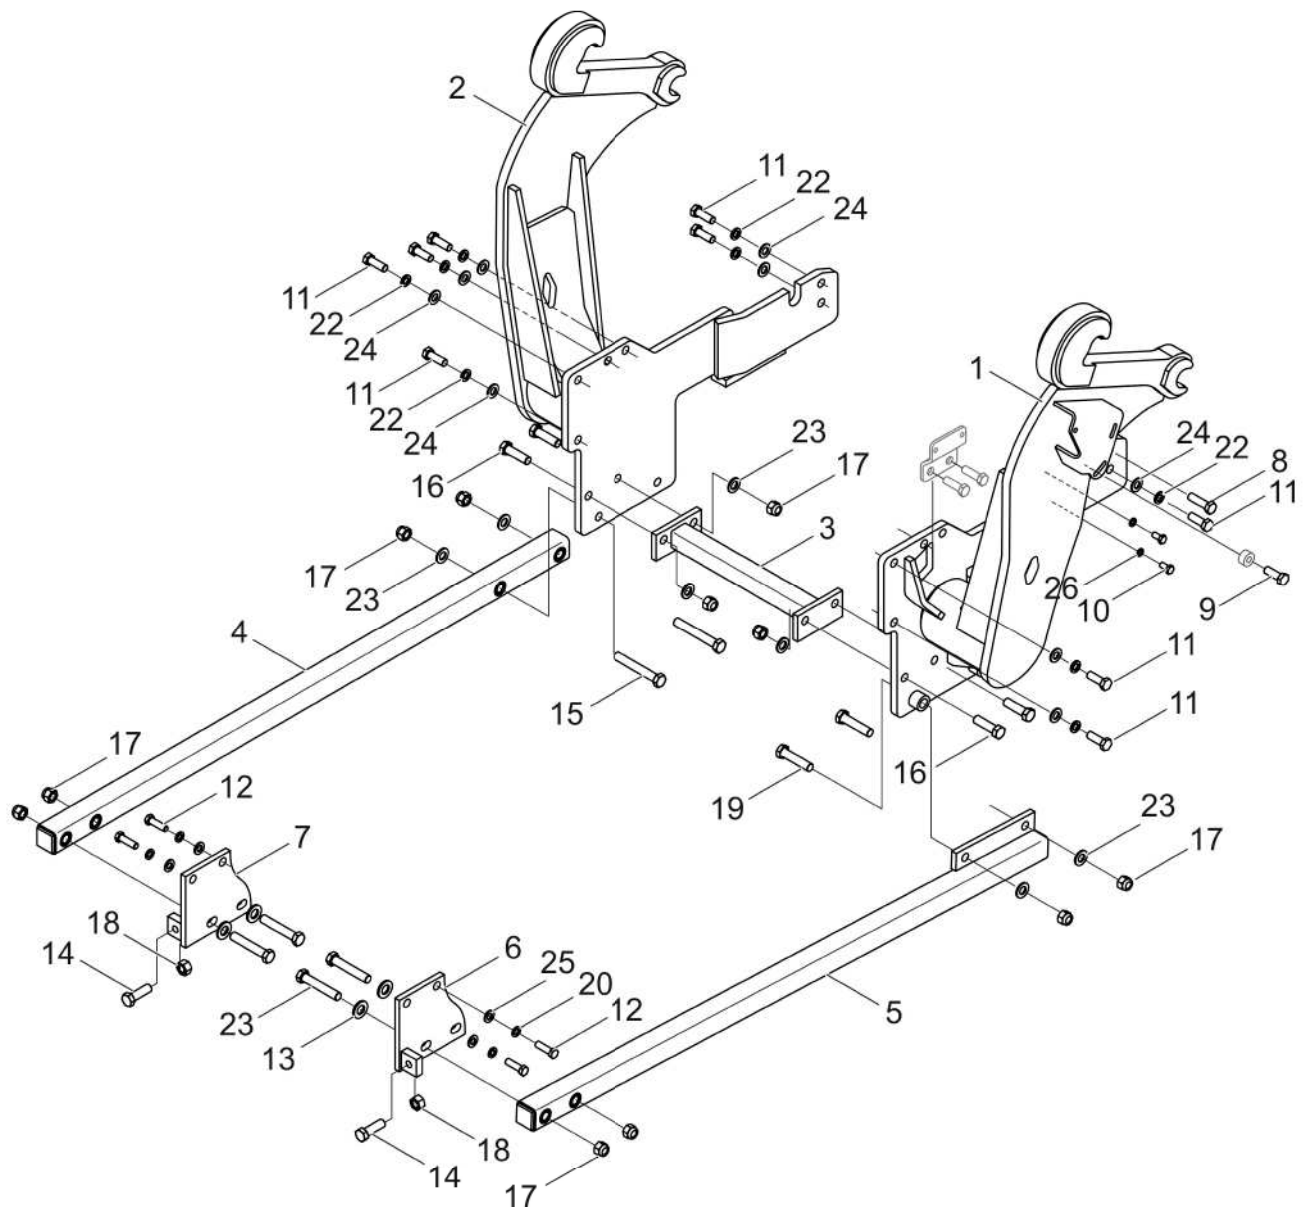
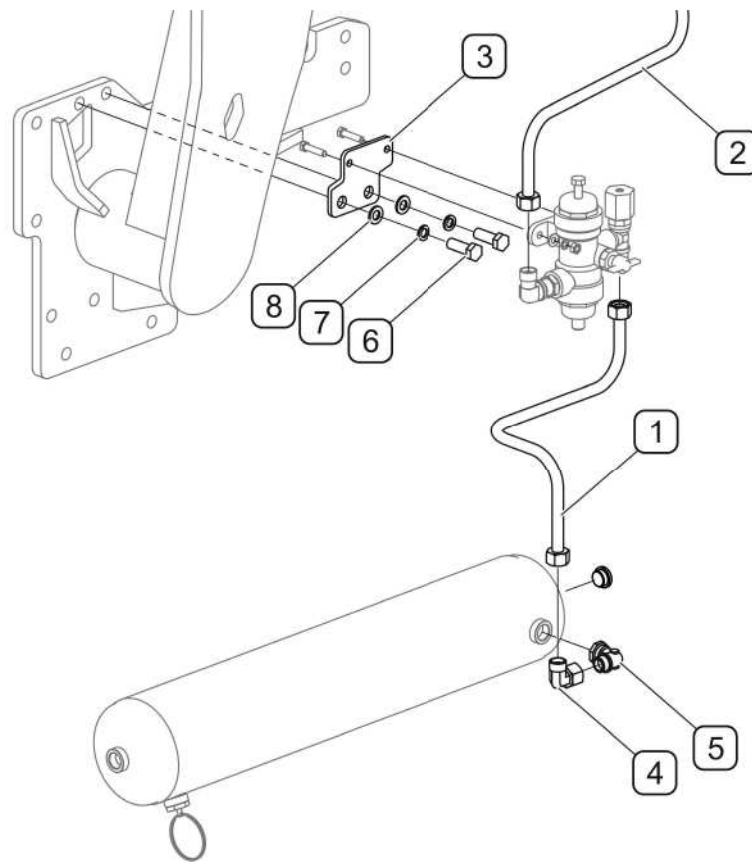
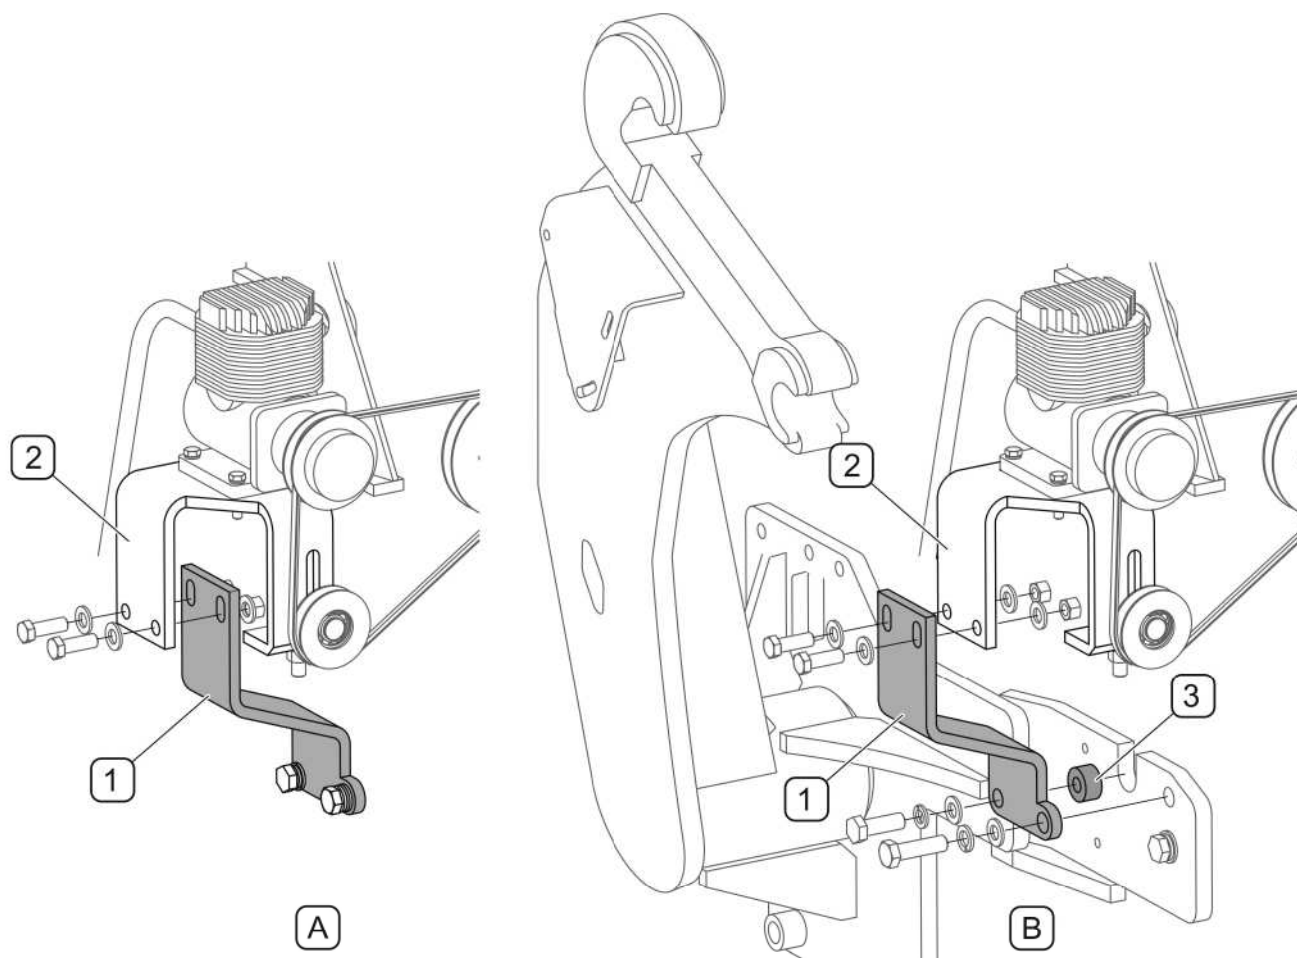

FIG. 4.3A Mounting support frame on KIOTI dk451C tractors
FIG. 4.11A Modification of pneumatic system in KIOTI DK451C tractors
FIG. 4.12A Changing the compressor mounting bracket in Kioti DK451C tractors
In the KIOTI DK451C tractors (FIG. 4.3A), remove the air pressure regulator and hydraulic hoses bracket before beginning assembly. Front and rear part of the brackets (1) and (2) fix using the bolts (8), (9) and (11) with washers (22) and (24). In the front part of the right bracket, use one of the two spacer bushings (3) (previously mounted under the air pressure regulator bracket) and install bracket (1) of the compressor (FIG. 4.11A). Between brackets (1) and (2), mount securing rod (3) using bolts (16), nuts (17) and
(24). In the front part of the right bracket, use one of the two spacer bushings (3) (*previously mounted under the air pressure regulator bracket*) and install bracket (1) of the compressor (FIG. 4.11A). Between brackets (1) and (2), mount brackets (29) using bolts (16), nuts (17) and washers (23). Under the bracket (29) use spacer bushings (30) and fix using bolts (21) with washers (20).
In KIOTI DK451C tractors mount bracket (3) and the previously the air pressure regulator (FIG. 4.11A) and compressor bracket to the right bracket of the support frame. If the tractor pneumatic system is not configured in the factory for the loader support frame, replace the lines connecting the compressor and the regulator a also the regulator with the air tank with suitable lines (1) and (2). Air tank must be connected to line (1) through the connector (4) and connector (5). Secure compressor mounting bracket to the loader support frame. After completing above actions check seal tightness of pneumatic system.
In the Kioti DK451C tractors, using the existing fasteners, install the bracket (1) which is factory pre-installed (A) under the compressor bracket (2), onto the compressor bracket (FIG. 4.12A). Under the bracket (1) use the spacer bushing (3) removed from the air regulator bracket (FIG. 4.11A).